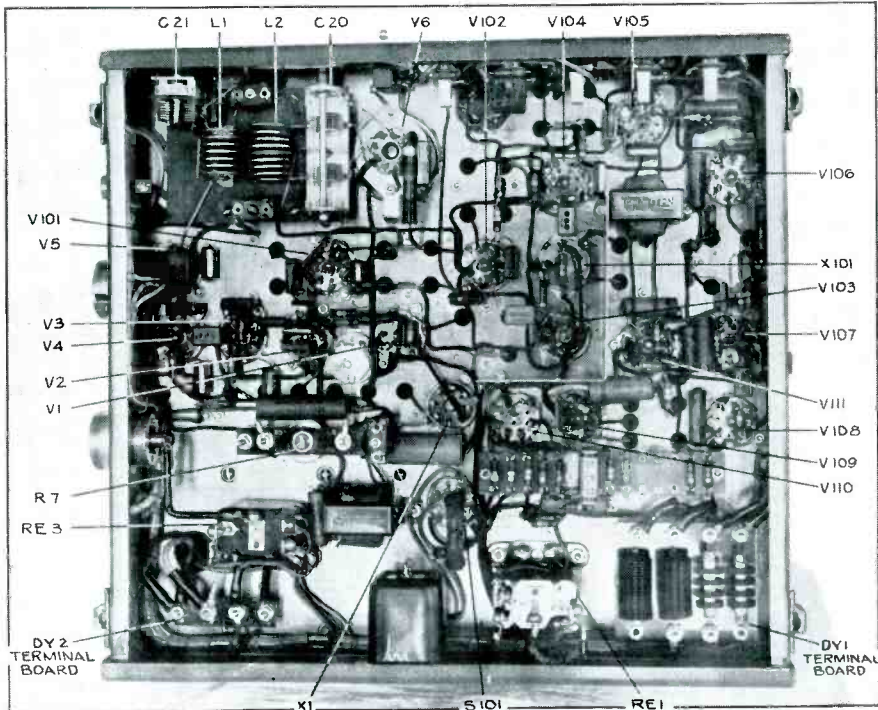

FIG. 6. UNDER SIDE OF THE CHASSIS. CONSTRUCTION IS REMARKABLY SIMPLE, CONSIDERING THAT THIS UNIT CARRIES THE COMPLETE TRANSMITTER, RECEIVER, AND POWER SUPPLY
2. Plug the millivoltmeter into the driver grid jack, and tune T2, T3, T4, and the driver grid for maximum reading of this meter. Do not tune any of the multiplier circuits rapidly because, in so doing, it is possible to tune off the correct frequency and get on another harmonic. See Figs. 6 and 7 for locations of the tuning controls.
1. Squelch: The squelch control on the front panel of the radio unit, Fig. 6, should be set so that the loudspeaker will respond only when a signal having a minimum predetermined value reaches the antenna. This is determined by prevailing local conditions. If, for some reason, the operator finds that he is not receiving a signal when he has reason to believe that one exists, he need only snap the SQUELCH switch on the remote control unit to the down position. In this position, the squelch is out. A speaker jack is provided at the radio unit, Fig. 6, for the insertion of a 4- to 8-ohm loudspeaker to facilitate the testing process. When